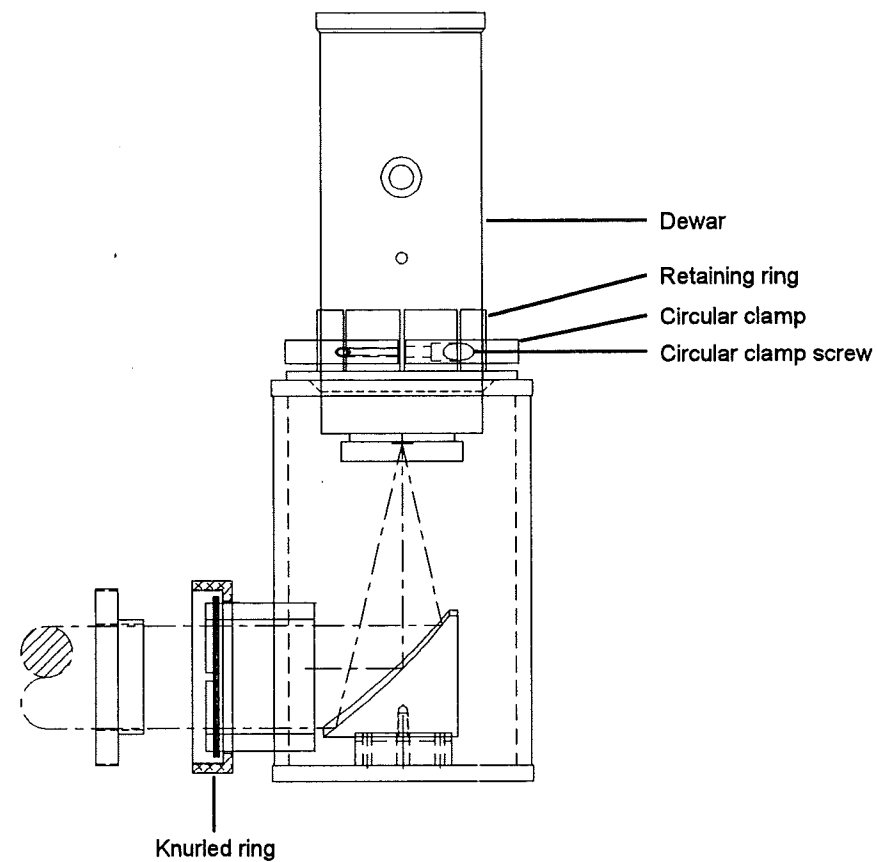

Figure 15. Cold source assembly
- a) Remove the 2 screws in the circular clamp, which holds the Dewar in place (Figure 15).
- a) Remove the cold source from the spectroradiometer by first loosening the knurled ring (Figure 15), then carefully pulling the source away from the spectroradiometer.